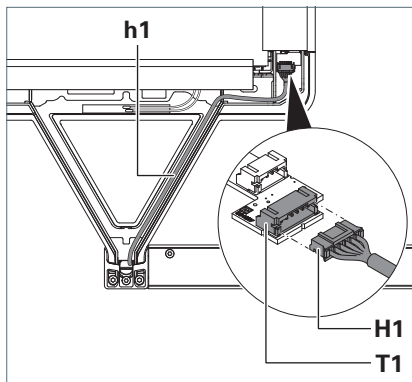

Fig. 14: Connecting the control cable.
2. Lay the control cable **h1** from the cross-bar into the supporting arm of the luminaire head, see Fig. 14.